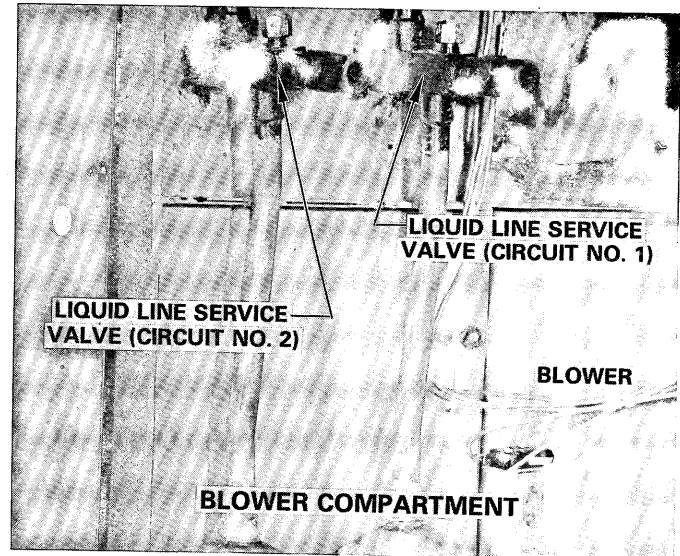
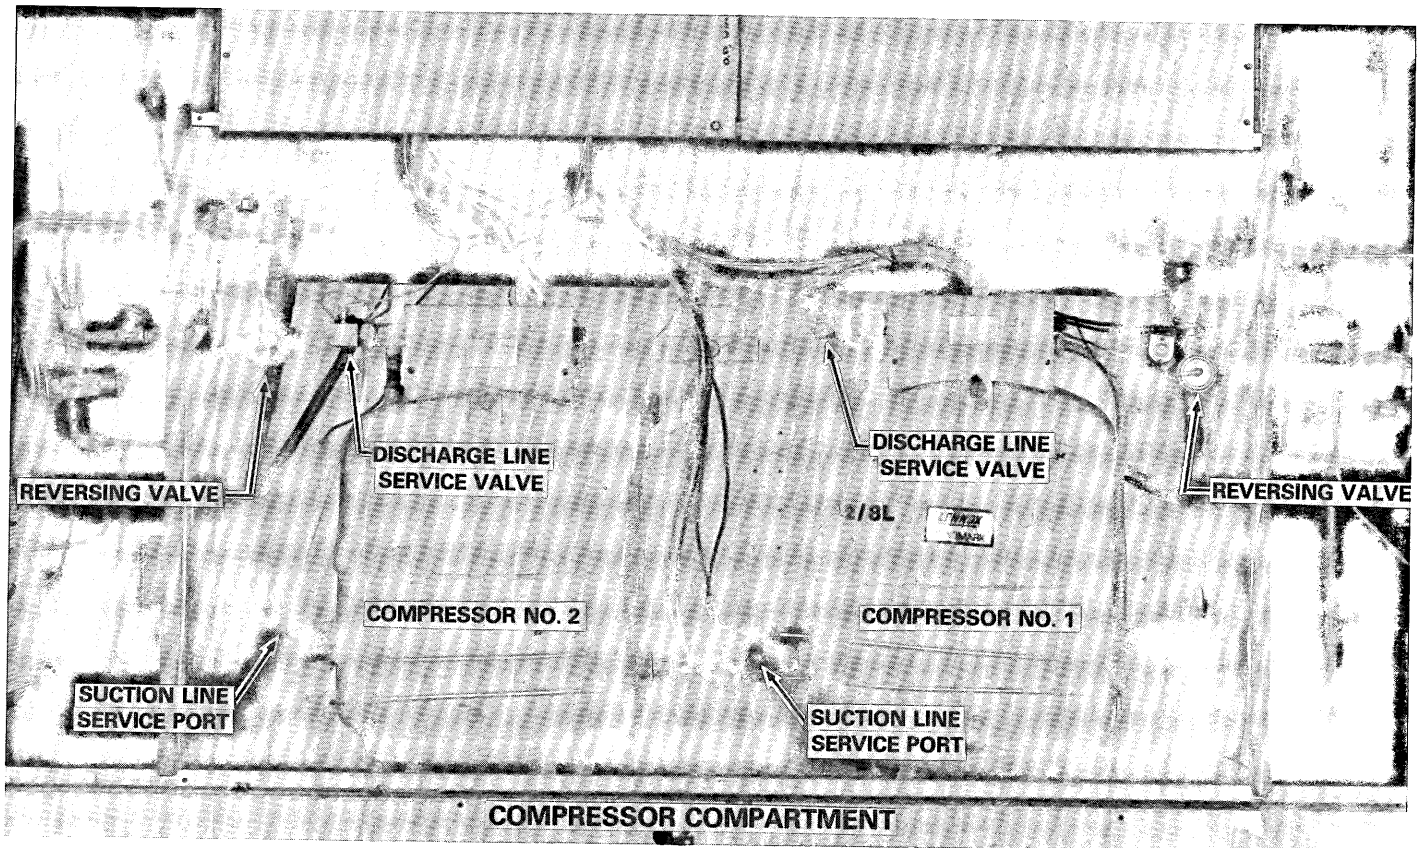

FIGURE 34
FIGURE 33
Refer to Figure 33 for component location and identification in the compressor compartment. Figure 34 shows the location of the liquid line service valves in the blower compartment.
- 1 - Attach gauge manifold. Refer to Figure 33 for service valve identification.